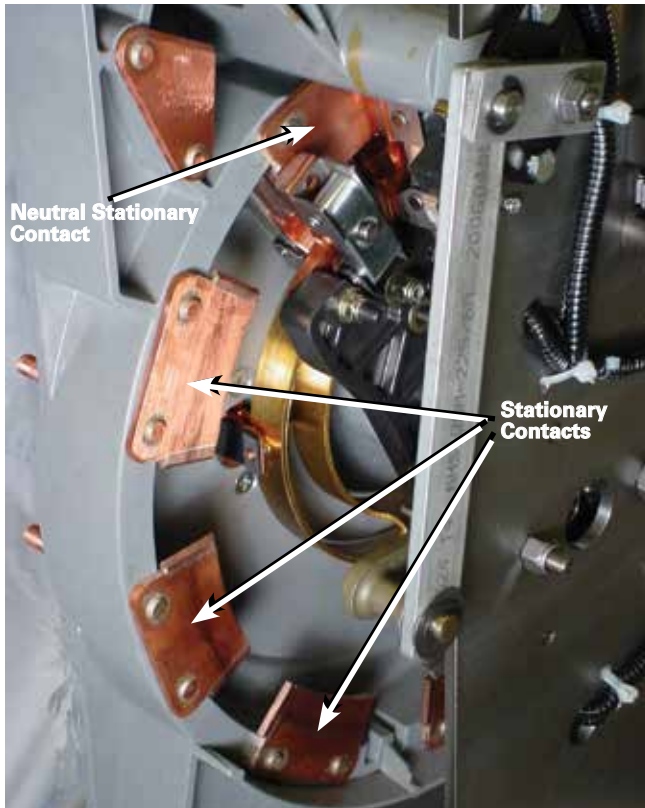

Figure 2. Stationary contacts.
1. Each QD5 tap-changer has nine main stationary contacts. Of these, eight are tap contacts and one is the neutral stationary contact. See Figure 2.